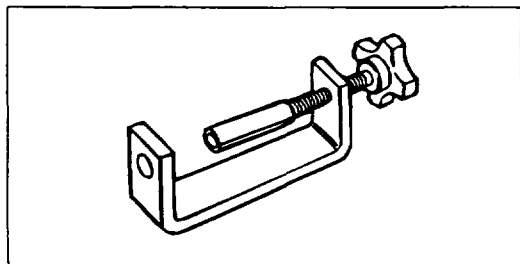

FIG. 2
4. Remove locknut (17) from slave piston adjusting screw (reset) (16) and back out screw until the slave piston is fully retracted.
5. Install the slave piston tool, P/N 017397, (Fig. 2) with the slave piston adjusting screw fitted into the hole in the tool.